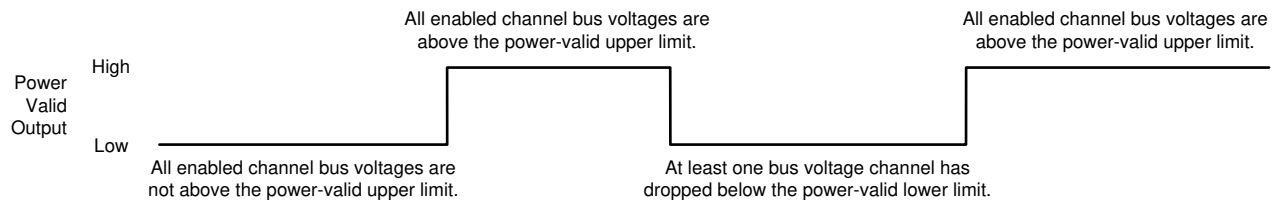

Figure 7-1. Power-Valid State Diagram
The power-valid alert verifies if all power rails are above the required levels. This feature manages power sequencing, and validates the reported measurements based on system configuration. Power-valid mode starts at power-up, and detects when each channel exceeds a 10V threshold. This 10V level is the default value programmed into the Power-Valid Upper-Limit register. This value can be reprogrammed when the INA3221 is powered up to a valid supply-voltage level of at least 2.7V. When all three bus-voltage measurements reach the programmed value loaded to the Power-Valid Upper-Limit register, the power-valid (PV) alert pin pulls high. PV powers up in a low state, and does not pull high until the power-valid conditions are met, indicating all bus-voltage rails are above the power-valid upper-limit value. This sequence is shown in Figure 7-1.